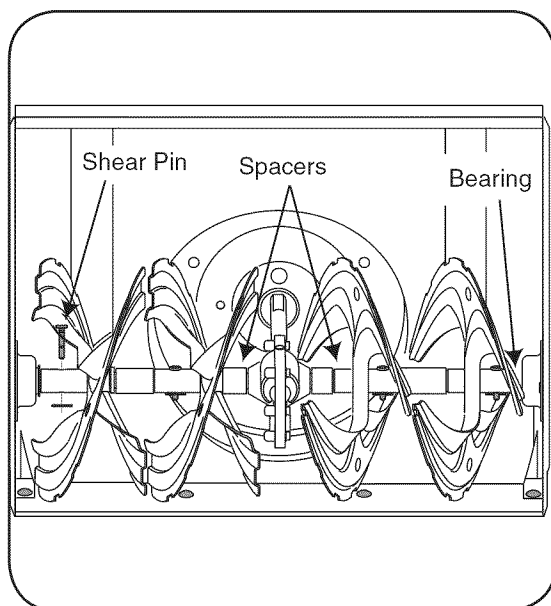

Figure 17
5. **Auger Shaft:** At least once a season, remove the shear pins on auger shaft. Spray lubricant inside shaft, around the spacers. Also lubricate the flange bearings found at either end of the shaft. See Figure 17.